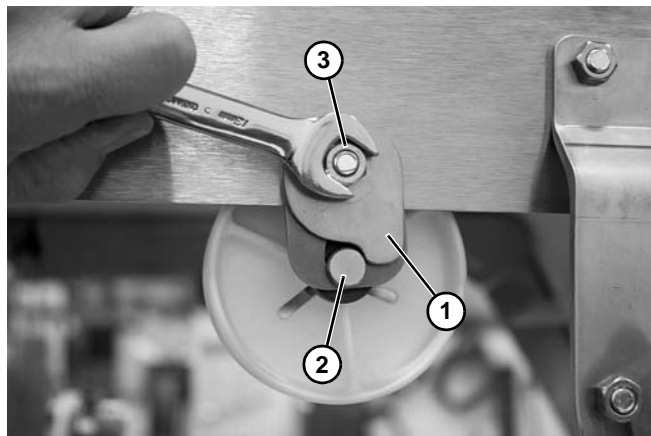

Figure 30
6. Rotate return clip (**Figure 30, item 1**) down against stub shaft (**Figure 30, item 2**) on both sides of conveyor. Tighten nuts (**Figure 30, item 3**).